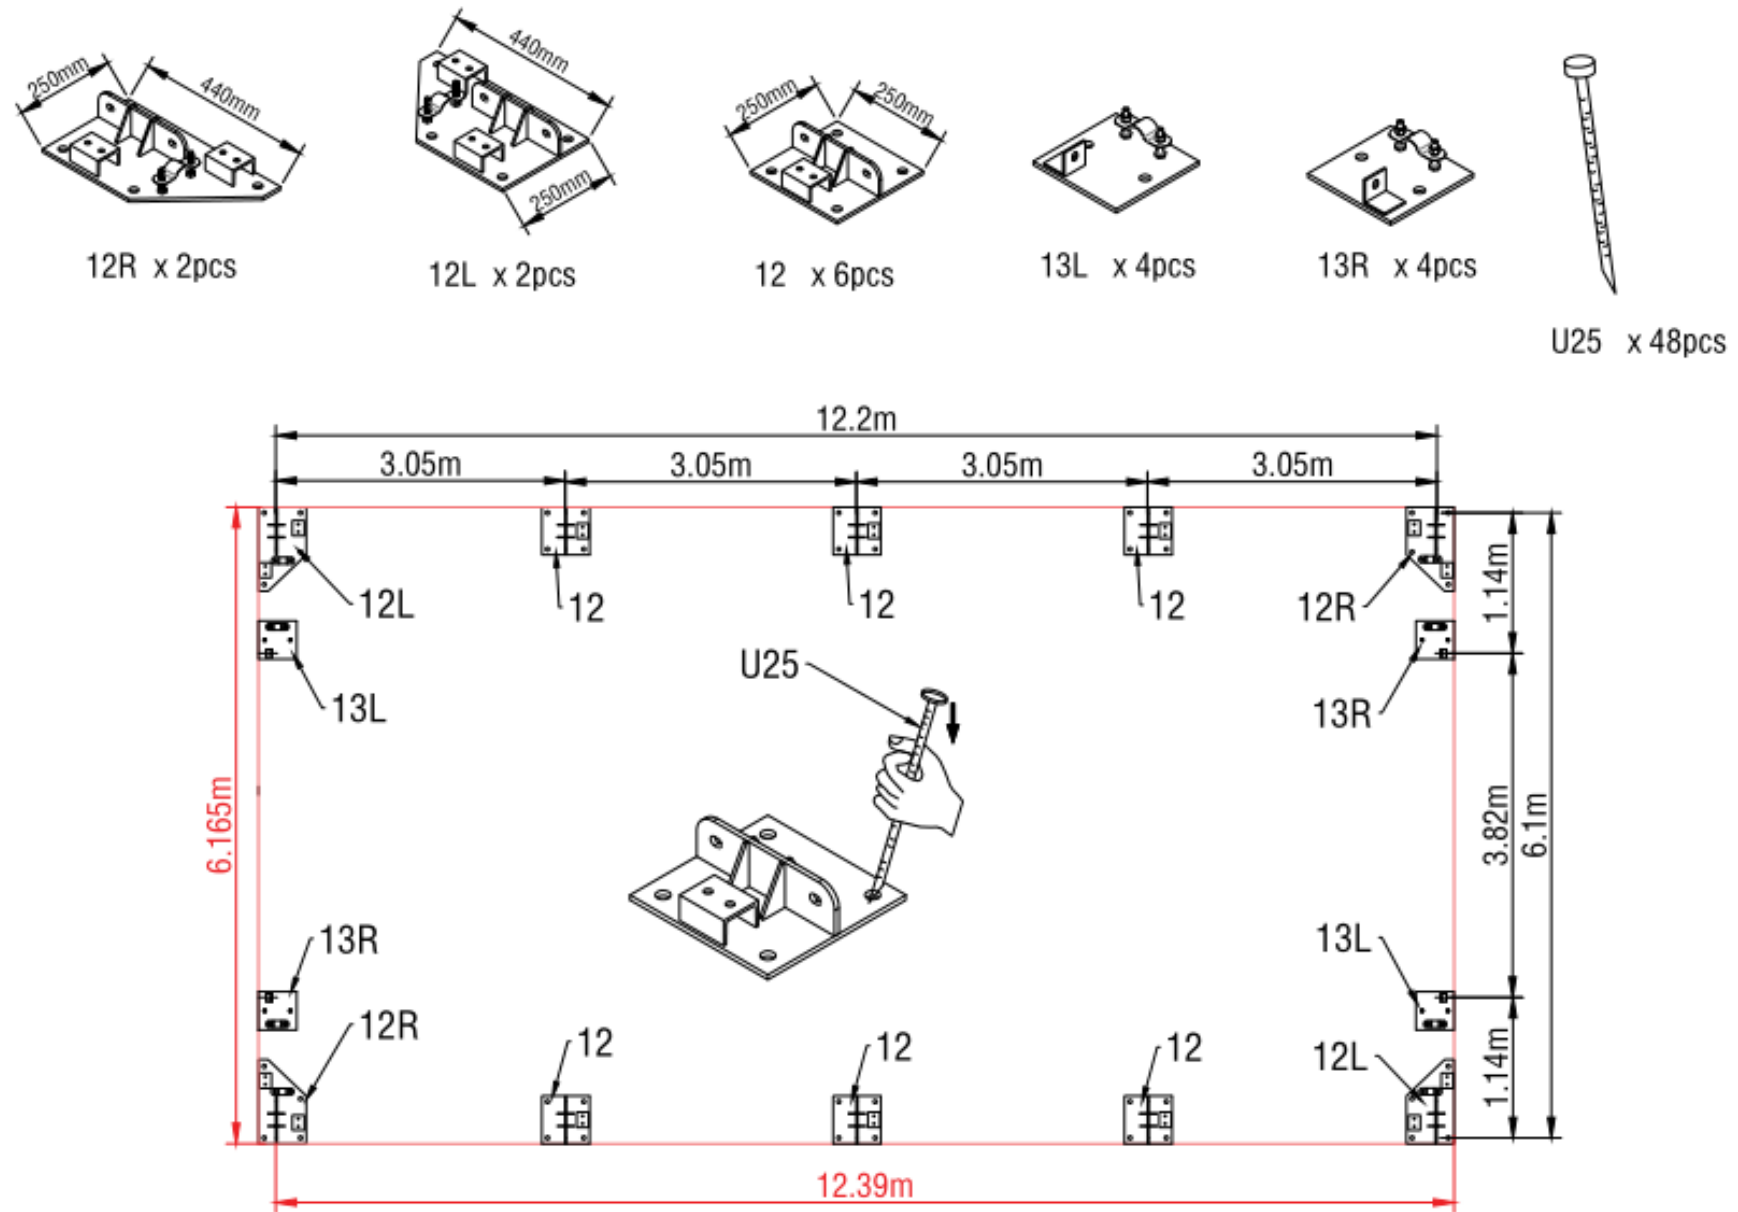

Figure 1
2. Please refer to the diagram (Figure 1) to place the base plates.
3. As Figure 1 shows each Base plate is equipped with 4 pieces of Stake pegs.(No.U25) or Expand screw